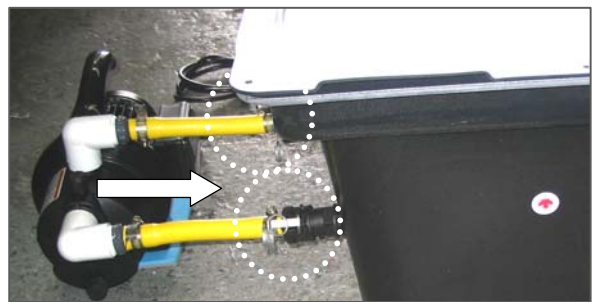

Figure 2.2 – Tuyaux de raccordement pompe
- Connectez les tuyaux (coupleur rapide) de la pompe aux orifices correspondants dans le bassin (Figure 2.2).
- **Connect the pump's connector tubs through the basin's hoses. (quick connect) (Figure 2.2). Make sure the connection is good and secures the coupling with a tie rap (Figure 2.3).**